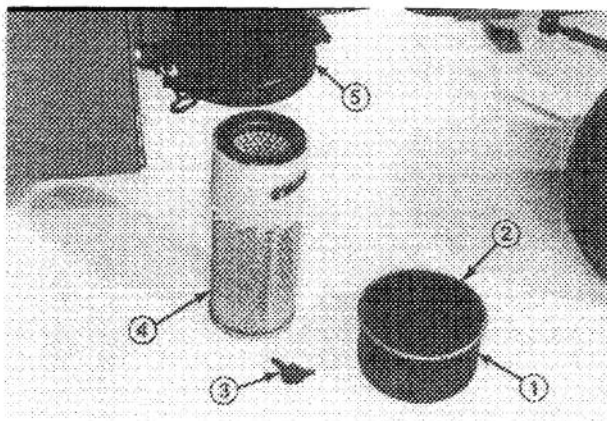

Figure 55
2. Remove wing nut w/gasket and slide filter element out of air cleaner body (Fig. 55).